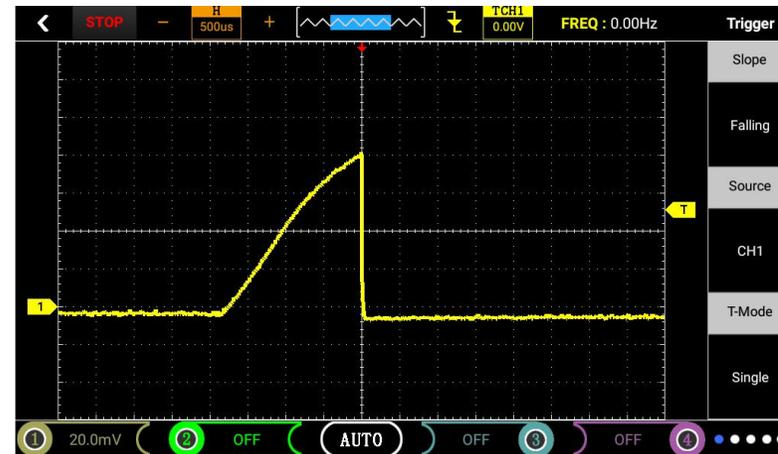

Figure 6
① Same as primary ignition step 1.
② Choose the ignition after entering the main menu interface, and then click to enter submenu selected primary ignition (current), enter the operation before world you will be prompted to fit the current clamp wait a few seconds into the interface of oscillograph.
③ Connect the current clamp to the oscilloscope CH1. Since the primary ignition of the oscilloscope has been set by default (the probe file is 1X and the base file is 1ms), the waveform can be visually displayed by simply connecting the current clamp to the ignition coil, as shown in figure 6.